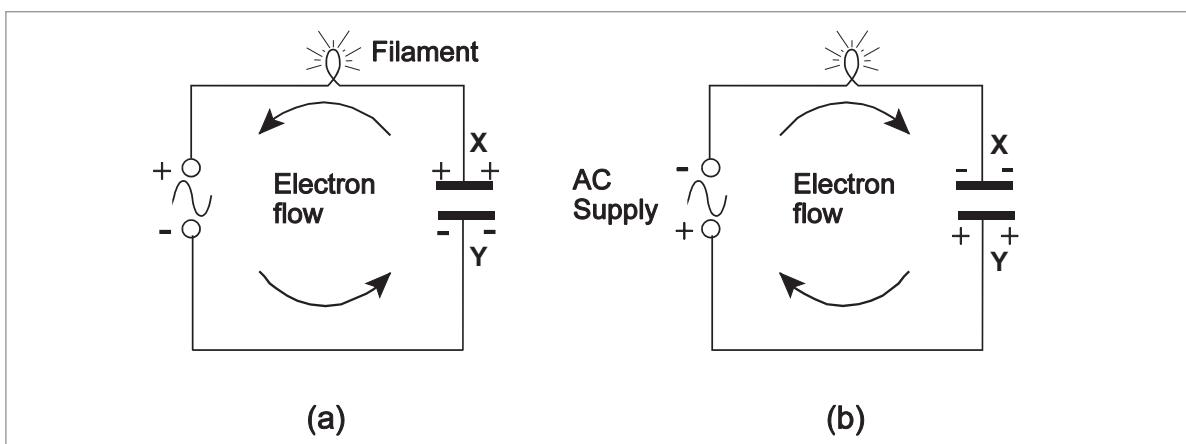

Figure 3.7
*Figure 3.7* shows the battery replaced with an Alternating Current Supply. A light bulb is placed in series with the supply and the capacitor.